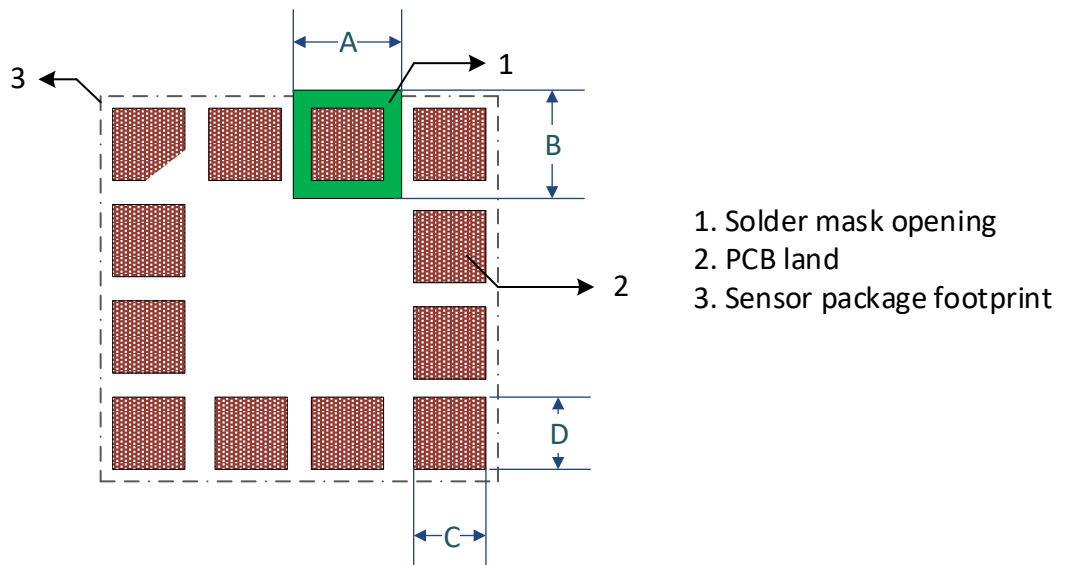

Figure 20: PCB land and solder mask recommendations for sensors with LGA package
- The solder mask opening external to the PCB land is highly recommended. Please refer to figure 20.